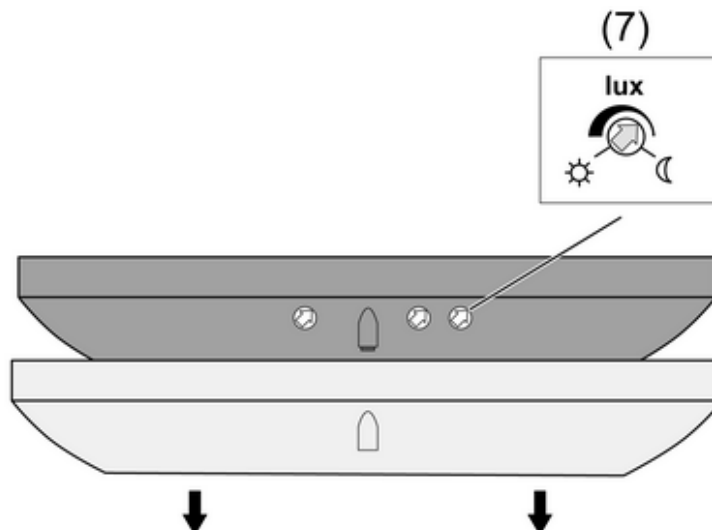

Figure 9: Brightness adjuster
When teaching the first presence detector in the receiver the brightness adjuster (7) must not point to the Moon symbol (Figure 9). A presence detector that is set this way cannot be the first taught in a receiver.
- Set the brightness setpoint on the presence detector (7) in such a manner that the resulting brightness level in the room corresponds to the desired brightness and the light switches on (Figure 9). To do this it may be necessary to darken the room.
- To exit the light control test mode, press button (4) briefly or wait about 5 minutes.